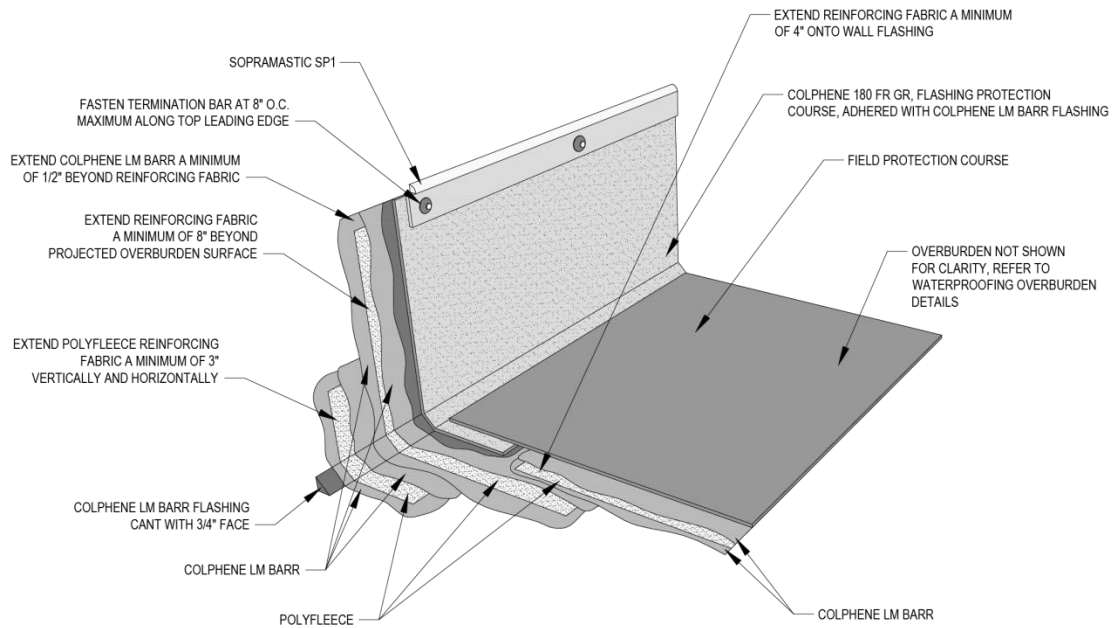

Figure 2.1a COLPHENE® LM BARR At Wall/Curb
- Refer to Figure 2.1a below.
- Where COLPHENE® LM BARR flashing details are exposed to UV, install COLPHENE® 180 FR GR, or other approved SOPREMA SBS modified bitumen flashing cap sheet to protect the waterproofing from UV exposure. Refer to Figure 2.1a below.
- Overlap the sheet onto the flashing protection course to ensure the COLPHENE® LM BARR waterproofing is not exposed to UV nor in direct contact with the overburden. Refer to Figures 2.1a through 2.1c.
- Overlap SOPRABOARD™ onto the flashing protection course to ensure the COLPHENE® LM BARR waterproofing is not exposed. Refer to Figures 2.1a through 2.1c.